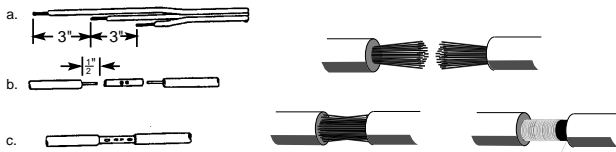

Figure 1A: Cable Splicing: Solid Wire, Stranded Wire
Prepare the cable and make the mechanical connections (Figure 1A) and splices as follows:
- BUTT CONNECTORS** (Figure 1A): Insert wires into connector until insulation butts up against connector. Crimp connector to wires with a pair of crimping pliers. Pull on cable to make sure the connection is solid and tight.
5B. SOLDERED CONNECTIONS (Figure 1A):